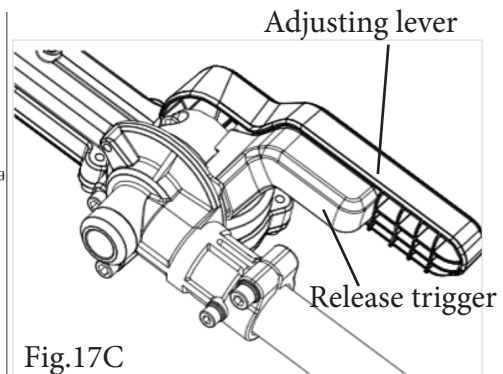

Fig.17C
1. Press the release trigger down and meanwhile, rotate the adjusting lever to adjust the blade to the desired cutting position as required. (Fig.17C)